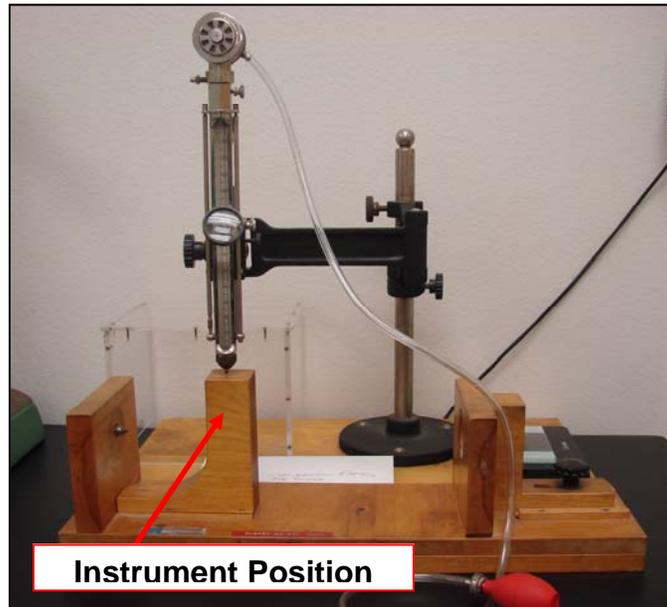

Figure 2 - Instrument position gauge aligning the barrel of the Scleroscope.
3. Align the small cylinder (hammer) that is at the bottom of the barrel with the hole at the top of the “L” shaped gauge. This ensures that the hardness of the bowling pin coating is being measured at the bowling ball contact point of the bowling pin. See Figure 2 which shows the position gauge used to align the barrel of the Scleroscope.